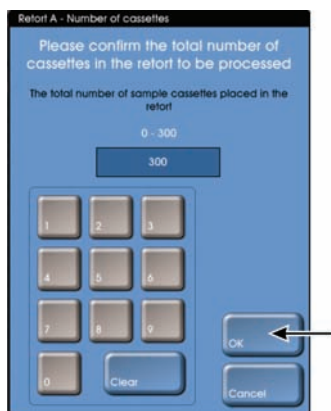

Figure 83: Number of cassettes dialog box with OK button
6. If prompted, enter the new number of cassettes in the "Number of cassettes" dialog box and select **OK** when done (see Figure 83).